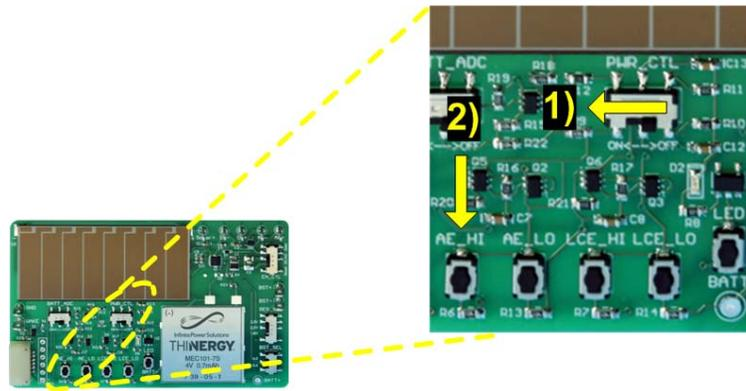

Figure 6: Enable High-Current Mode
The High-Current regulator output becomes enabled when the Active Enable (AE) pin on the MAX17710 part detects a rising edge signal. To do this on the IPS-EVAL-EH-01 the following sequence must be followed (Figure 6):